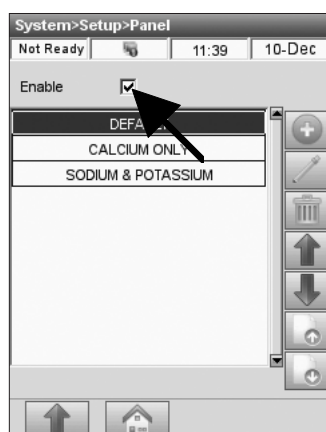

Fig. 3-37 Enable Panel
3. In the **<Panel>** menu (Fig. 3-37), press **<Enable>**. By default, this option is disabled.
4. Press  to add a new test panel (Fig. 3-37).